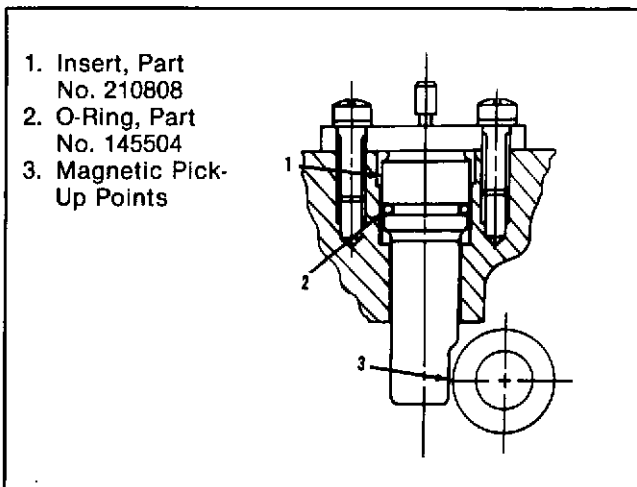

Fig. 9-17, (F5254). Insert assembly mounted in the fuel pump.
1. Install the insert with the O-ring in the groove in the fuel pump housing, Fig. 9-17.